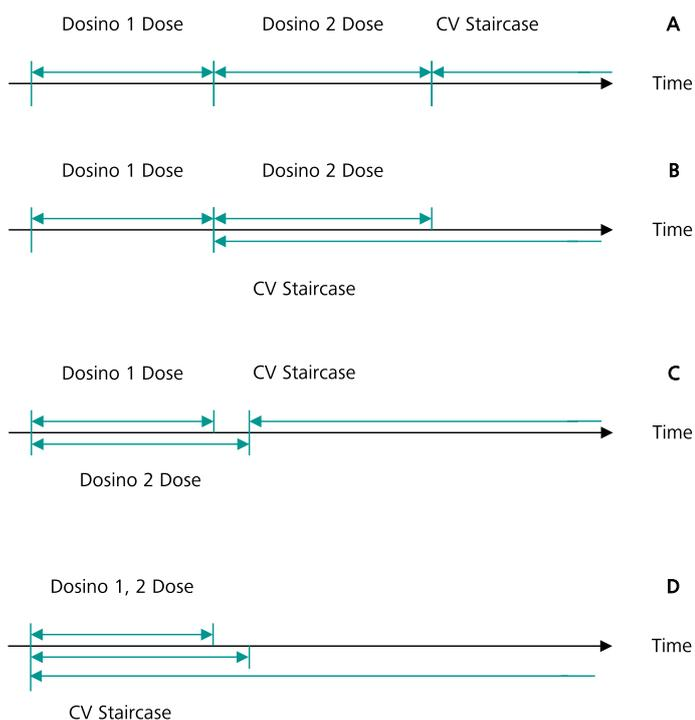

Figure 291 Illustration of the parallel execution option for the Metrohm devices
Figure 291 illustrates the use of the parallel execution, schematically.
- In Figure 291, A: Dosino 1 and Dosino 2 have parallel execution disabled. Both Dosino need to finish the Dose command before the CV staircase command can start.
- In Figure 291, B: parallel execution is enabled on Dosino 2 and disabled on Dosino 1. Dosino 2 starts dosing immediately after Dosino 1 is finished. The CV staircase command starts as soon as Dosino 2 starts dosing.
- In Figure 291, C: parallel execution is enabled on Dosino 1 and disabled on Dosino 2. Dosino 2 starts dosing at the same time as Dosino 1. Only when Dosino 2 is finished can the CV staircase command start.
- In Figure 291, D: parallel execution is enabled for both Dosino 1 and Dosino 2. All three commands start at the same time.